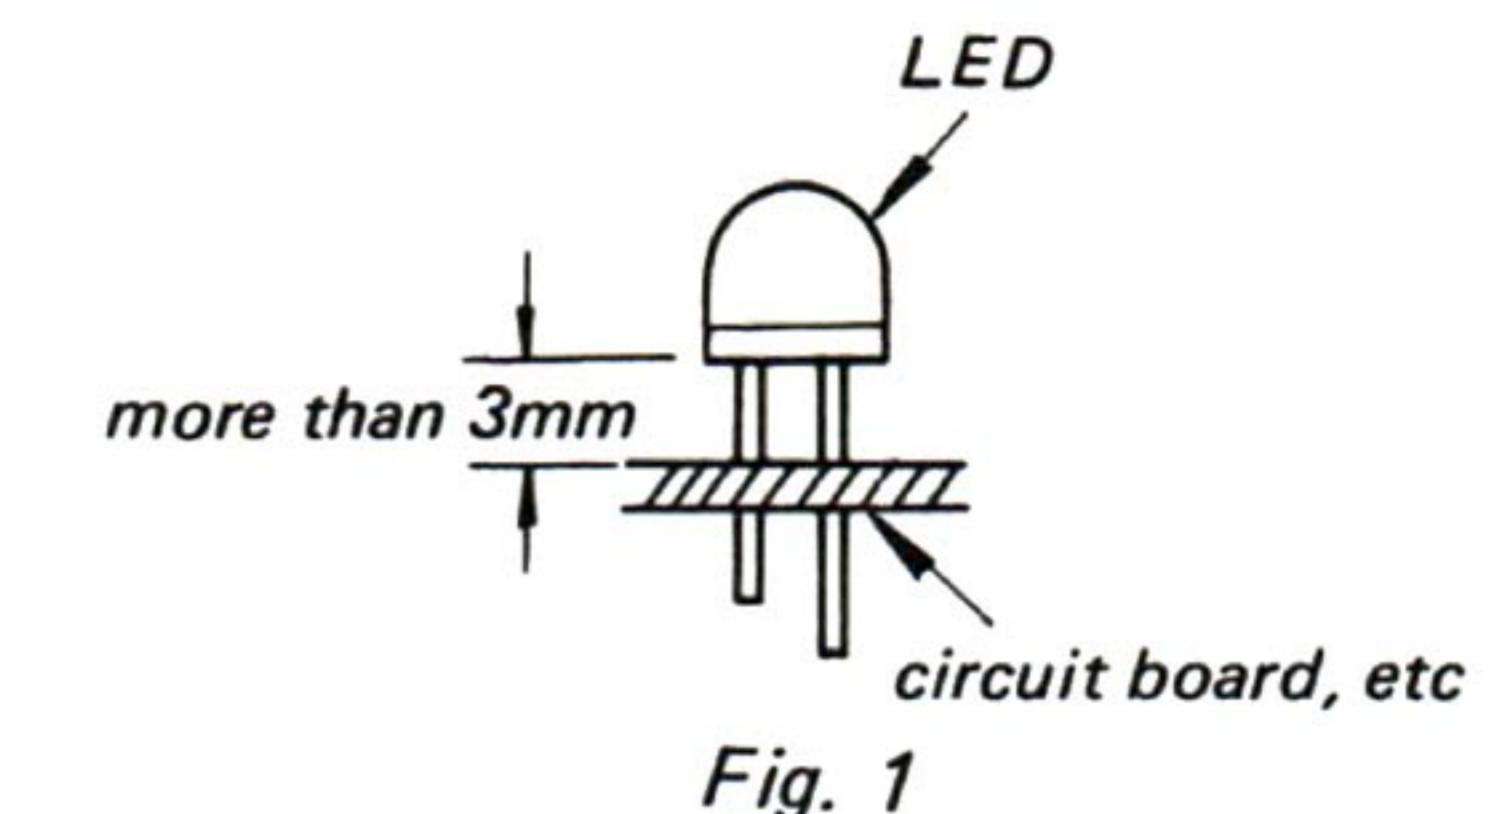

Fig. 1
- 1) Perform the soldering within 5 seconds with a soldering iron below 25W. The clearance between the end of the diode's body and the circuit board should be more than 3 mm (1/8") (Fig. 1).